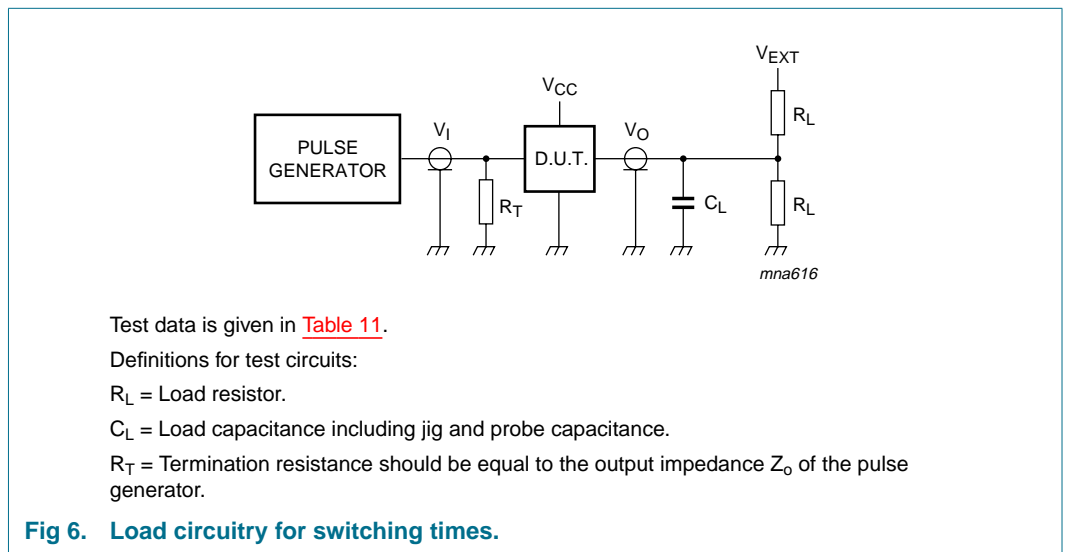

Fig 6. Load circuitry for switching times.
*GND = 0 V;  $t_r = t_f \leq 2.5$  ns;  $C_L = 50$  pF; see Figure 6.*
$GND = 0\text{ V}$ ;  $t_r = t_f \leq 2.5\text{ ns}$ ;  $C_L = 50\text{ pF}$ ; see Figure 6.